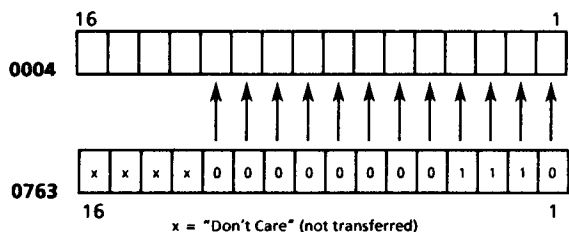

Figure 11.8 Transfer Of 12-Bit Output Width
- 0763 (D13) . Step #1 Output States bits 1 through 16. Since bits 2, 3 and 4 of register 0004 is set to "1", preset to 14 (decimal value). For the corresponding binary pattern see Figure 11.8.
2. (Also see "2A" below). Output information in registers 0763 through 0766 is transferred to the output registers specified by 0755 (D5) and 0756 (D6). Since D5 = 4 and D6 = 12, bits 1 through 12 of register 0763 are transferred to bits 1 through 12 of register 0004. Since register 0763 = 14, bits 2 through 4 of this register are set to "1" while bit 1 and bits 5 through 12 are set to "0" as shown in Figure 11.8 below: